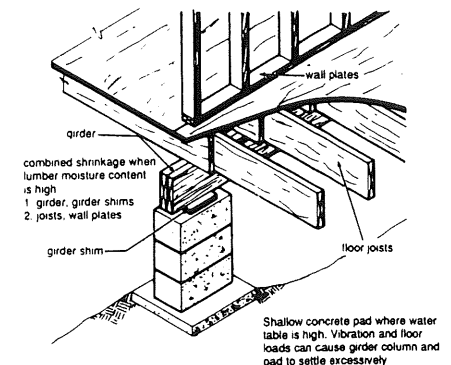

Figure 2. Crawl space details with potential for cracks and separations.
3. **Excessive shrinkage of the wood framing members: the girders, the girder shims, the sill and wall plates and the floor joists and partition wall plates.** Figure 2 shows elements of crawl-space construction where accumulative shrinkage and settlement can cause cracks and separations.
- At fabrication plants, planning delivery to the job site is recommended to reduce the length of time the components are exposed to the elements. The higher the moisture content of the lumber at the time the building is covered, the greater the percentage of shrinkage and the greater the possibility of CFPS. The use of joist hangers can reduce accumulative shrinkage if the joists are in the same plane as the girder and not stacked as shown in Figure 2.